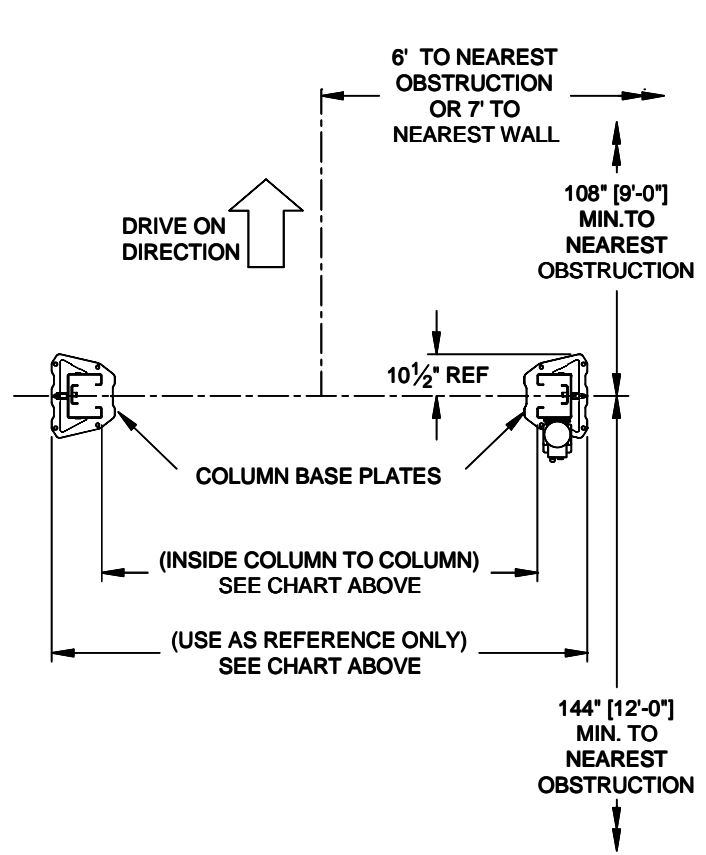

Fig1b - Service Bay Layout
- Layout the service bay according to the architect's plans or owners instructions (**see Fig 1b**). Be certain that the proper conditions exist, see page 3.